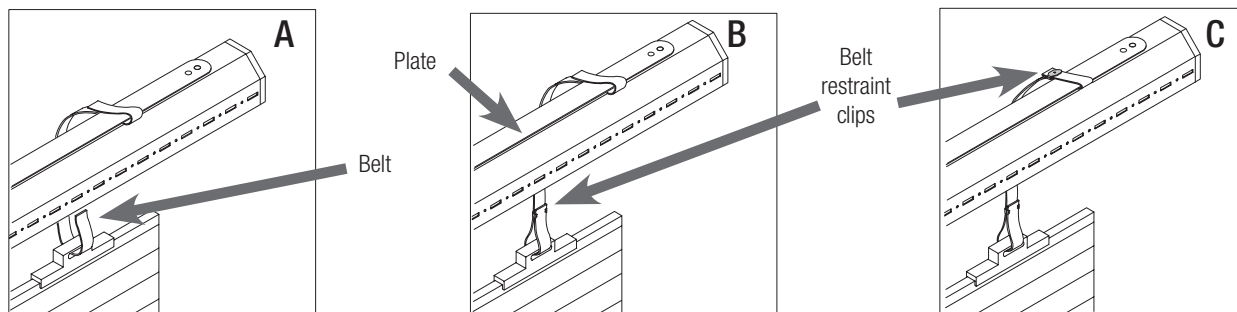

Fig. 18
1. Route the belt through the opening in the roller shutter (Fig. 18 ref. A).
3. Route the belt first under and then above the roller plate. (Fig. 18 ref. A-B).
4. Fit the clips and adjust the length of the belt so that it is slightly tightened. (Fig. 18 ref. B-C).
5. Tighten the belt restraint clips with a pair of pliers (Fig. 18 ref. C).